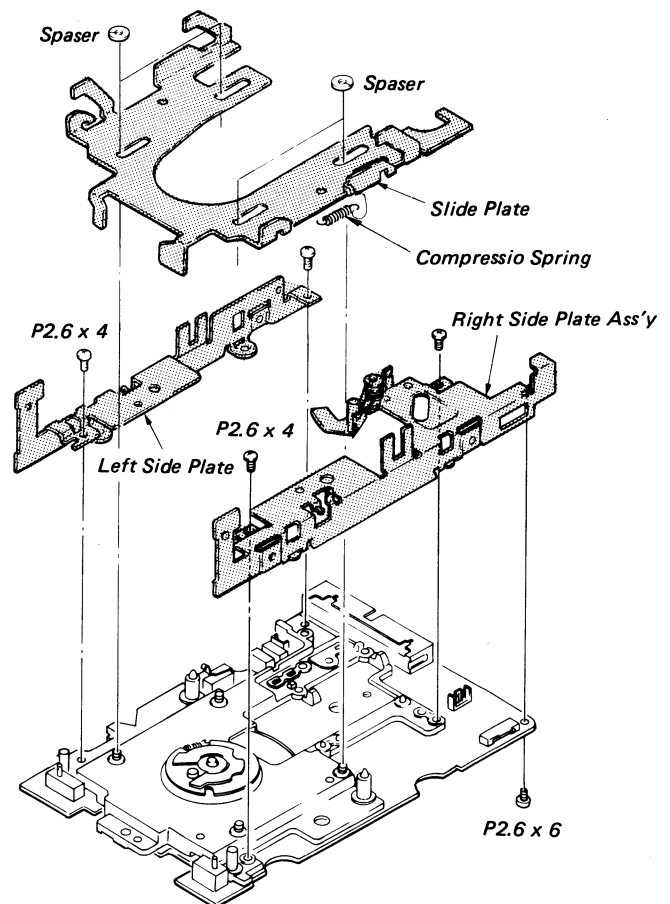

Fig. 4-6 (a) Slide Plate and Left/Right Side Plates Replacement
- Install the both side plates with four screws (P2.6x4). (Refer to Fig. 4-6 (a))